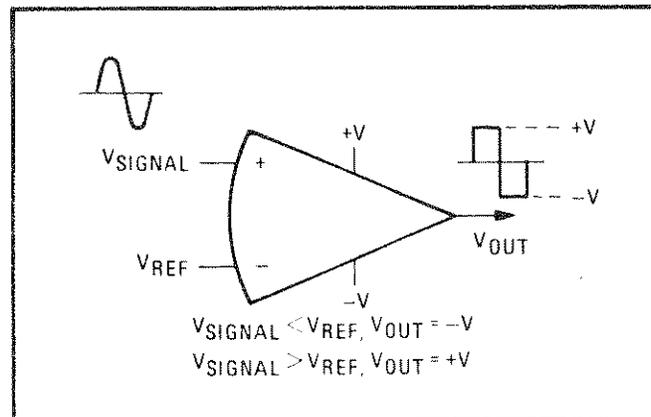

Figure B-37. Non-Inverting Comparator
**Comparators.** Comparators are used as level sense amplifiers, switch drivers, pulse height discriminators, and voltage comparators. A voltage reference is connected to one of the amplifier's inputs as shown in Figure B-37 and B-38. When the input signal voltage crosses the reference, the output goes positive; the output remains positive until the signal re-crosses the reference.